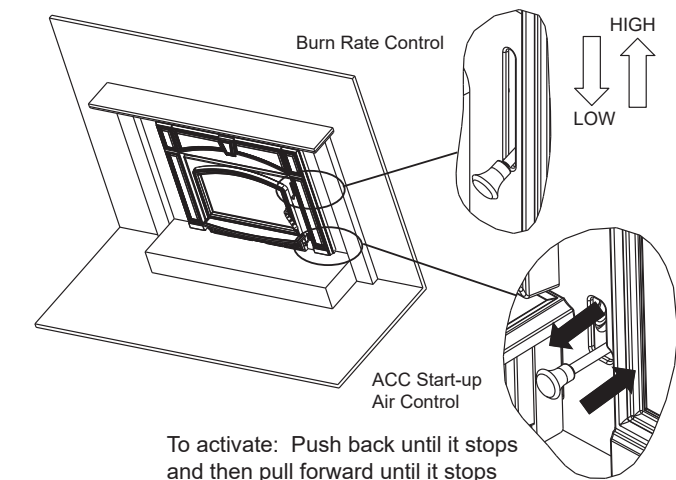

Figure 11.1 - Start-up and Burn Rate Air Controls
The next stage of burning, the secondary stage, is the period when the wood gives off flammable gases which burn above the fuel with bright flames. During this stage of burning it is very important that the flames be maintained and not allowed to go out. This will ensure the cleanest possible fire. If the flames tend to go out, it is set too low for your burning conditions. The air control located at the upper right hand corner is used to adjust for burn rates. This is called the Burn Rate Air Control (**Figure 11.1 on page 11**).
- Push the Start-Up Air Control all the way back until it stops and then pull forward to the front of the appliance until it stops (**Figure 11.1 on page 11**).
- The fire is now controlled by the air supplied by the Burn Rate Air Control (**Figure 11.1 on page 11**).
- When the control is raised all the way up it is on the High setting and when pushed all the down it is on the Low setting (**Figure 11.1 on page 11**).